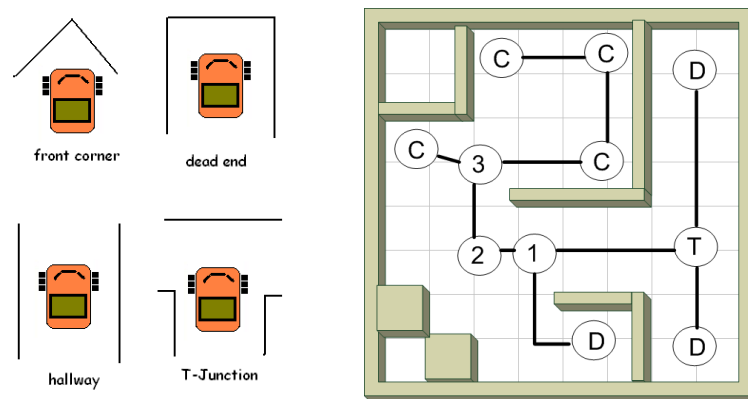

Figure 11: Feature Extraction (Map Coding)
Localization is the process a robot uses to determine its location in a world given an a priori map and sensor readings. A localization algorithm should process the map to identify key features such as the gateways or distinctive places [corners (C), hallways (H), dead-ends (D), t-junctions (T)]. Although it is not a gateway, a series of 10's or 5's or neighboring 1's and 4's or 8's and 2's indicates a hallway (H) in the world. The numbers (1, 2, 3) indicate a gateway where the robot can make a navigation decision. The distinctive features or gateways are the nodes in the world and the hallways can be used with a local control strategy such as follow center or follow wall to move between nodes. An example of coding a map for topological path following is shown in Figure 11.